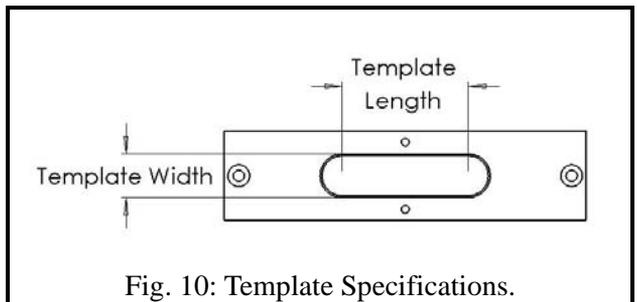

Fig. 10: Template Specifications.
- The **mortise length** is determined by the template used and the diameter of the router bit used. Referring to Fig. 10, the **template length** is measured from center to center along the slot. The mortising templates supplied with the jig come in four lengths, 1/2", 1", 1-1/2" and 2".